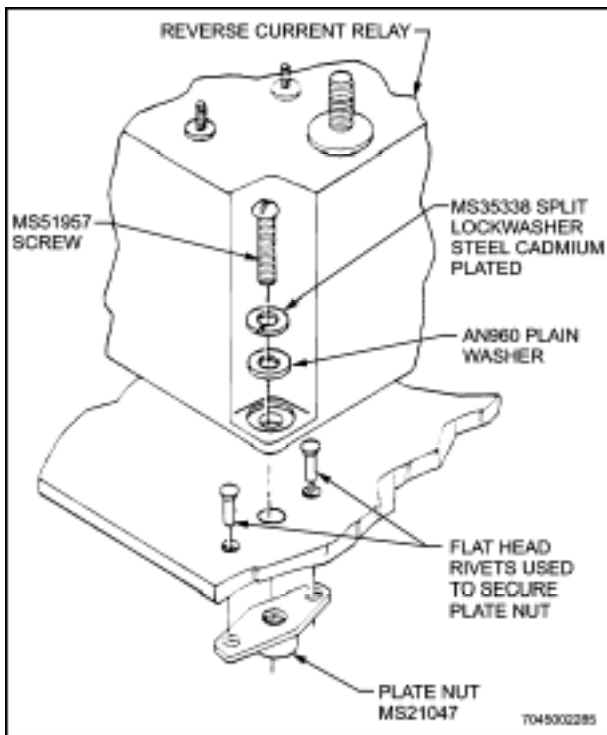

Figure 15-7 Typical Mounting Hardware for Protective Devices
33. When it is necessary to install a protective device with a screw into a tapped hole or a nut plate, install a plain washer and a split lockwasher under the screw or bolt head. (See Figure 15-7.)